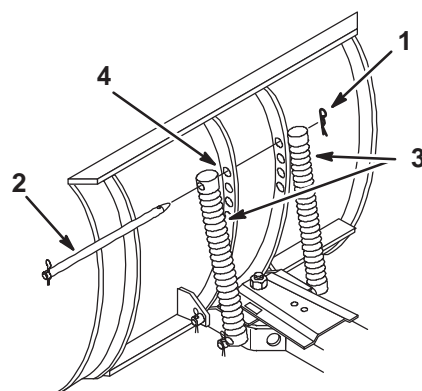

Figure 23
You can mount the blade trip springs in four positions. The top hole provides the greatest scraping pressure and the bottom hole provides the least scraping pressure (Fig. 23). Toro recommends using the second hole from the top for removing snow.
1. Remove the hairpin cotter and slide the rod from the blade and springs (Fig. 23).
2. Slide the rod through the springs and the new hole position in the blade (Fig. 23).